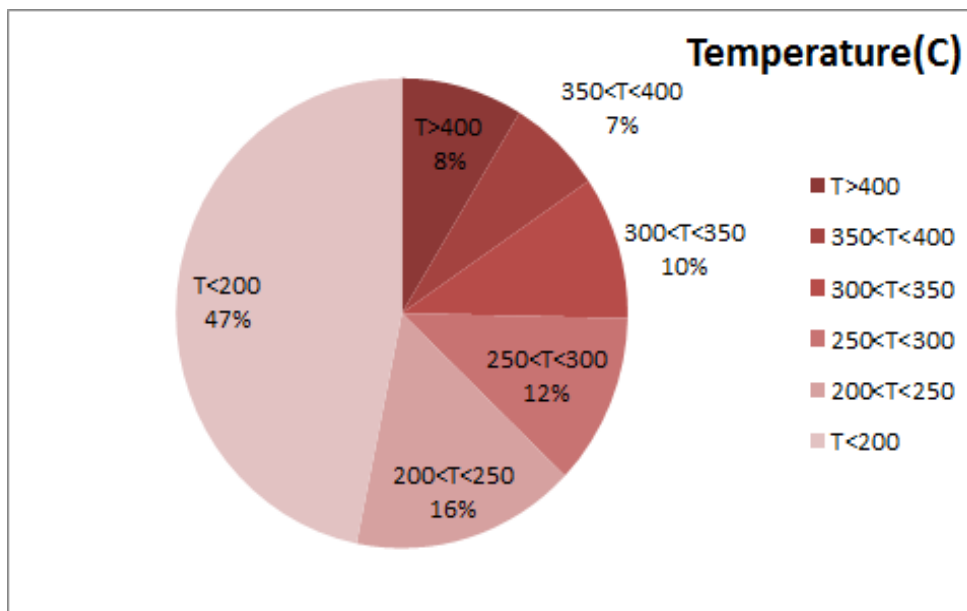

Figure 2-Temperature1 distribution over the working hours
- Figure 2 displays flow temperature before the DPF. It can be obviously observed that 8% of total working-time temperature is above 400 °C and 16% above 350°C. This high temperature distribution is cause of acceptable operation of this filter over the period.